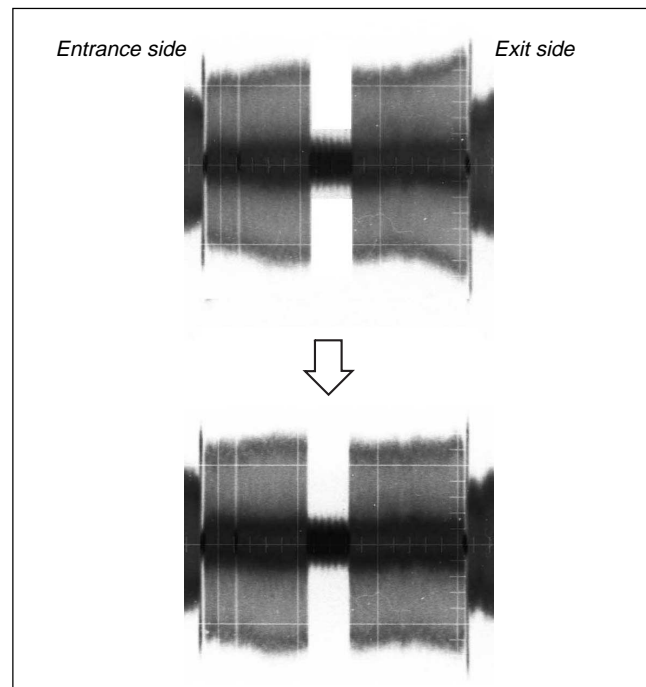

Fig. 6-2-12
- 3) Adjust the TG4 so that the RF envelope has the larger amplitude at the exit side first, then adjust TG4 guide for flat amplitude. (Refer to Fig. 6-2-12.)